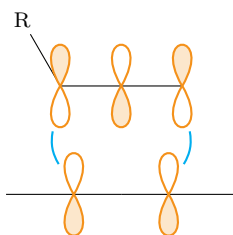

Figure 2.37: Dipolar cycloaddition orbitals in 3D space.
- Therefore, the LUMO of the dipole will look like the third energy level of Figure 2.16. Indeed, that's what we've drawn in Figure 2.37!
- Therefore, the HOMO of the dipolarophile will look like the first energy level of Figure 2.13. Indeed, that's what we've drawn in Figure 2.37!